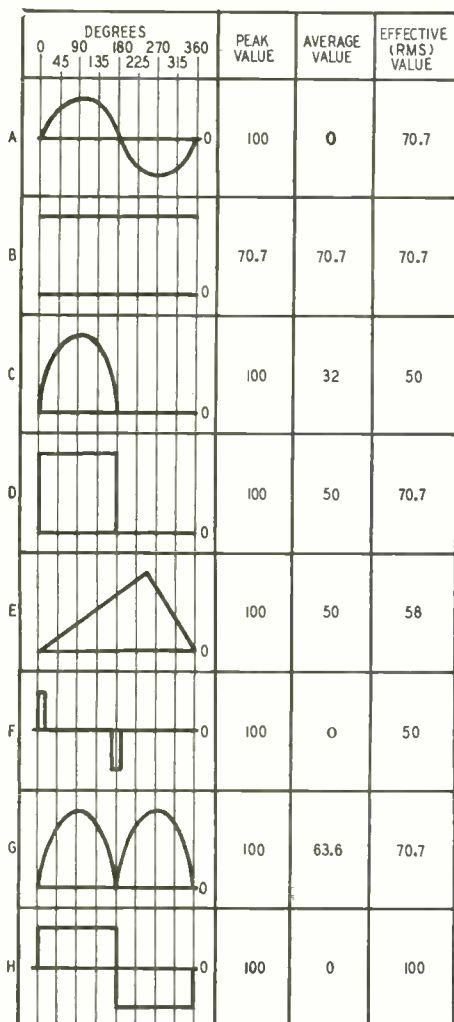

Fig. 1—Shape of the waveform affects peak, average, and effective values.
This is best illustrated by imagining the voltage of Fig. 1-a being measured by our voltmeter. The coil swings in one direction for the positive half of the cycle and in the opposite direction for the negative half. If both alternations are equal in amplitude, we have equal swings. The average of the two swings is, of course, zero, which is what the meter reads. The swinging of the needle is visible only if the frequency is very low. The meter reading is the average of the instantaneous motions of the needle, the average of the currents flowing through the coil over a short period of time. All d.c. meters are calibrated in average values.
What is the significance of the *average value*? Vacuum-tube potentials and currents may vary with instantaneous signal level but proper operation is often determined by the average values. On the other hand, circuit components and the tubes themselves must be selected on the basis of the heating effect of the currents passing through them, which depends on the effective or r.m.s. value. For Fig. 1-b, a d.c. "wave," the average, effective, and peak values are alike. The d.c. meter is designed to measure this type of voltage accurately for only then can it register the heating effect directly. Compare this with Fig. 1-a where the meter would read nothing, yet we know the effective value is as great as for Fig. 1-b.
conventional meters. Step 1 in our calculations is to divide one cycle of any wave into a number of equal time intervals. The greater the number, the better the accuracy. In Fig. 1, the waves are divided into eight parts, though this is far too few for any accuracy. We will then note the amplitude at each of these intervals.
The direction of the current flow has no bearing on its heating effect. Both the negative and positive alternations of a current heat equally a resistor through which it flows. (Note that Fig. 1-g has the same effective value as 1-a.) In other words, polarity is ignored for r.m.s. calculations, but not for averages.
Step 2 is to calculate the average value by adding all the amplitudes and dividing the sum by the number of intervals. Table I lists the data for four of the waves illustrated in Fig. 1. The others are obtained similarly.
As a sample of the calculation of the average value, for Fig. 1-d, the sum of the amplitudes is 400 volts. Dividing by the number of points taken, 8, we arrive at an average value of 50 volts. For 1-a we get zero volts.
The *effective* value is next calculated. The heat produced by a current varies directly as the square of the current ($P = I^2R$), or of the voltage ($P = E^2/R$). The term r.m.s. means "the square root of the average of the squared amplitudes." That is, the effective current is that whose square is the average of all the heating effects. For a sample calculation, for Fig. 1-d (see Table I), the sum of the squared values is 40,000. Dividing by 8, the average of the squares is found to be 5,000. The square root of 5,000 is 70.7 which is the r.m.s. value for the wave. Calculating for Fig. 1-h, we find the effective value is equal to the peak, and the average value to zero.
It is somewhat simpler to understand this last, if we imagine any a.c. wave as it would appear *after full-wave rectification* as in Fig. 1-g compared with 1-a. This is in agreement with what has been said about the direction of the current flow being unimportant. The calculations are based on this "rectified"
Coming back to our d.c. voltmeter, let's see what happens in the measurement of pulsating d.c. voltages. If Fig. 1-d were the plate voltage of a tube, the 50-volt average value would be used in determining the gain or power-handling ability of the tube. The 70.7-volt r.m.s. value would be needed to calculate the wattage of the load resistor. The peak value of 100 volts should be known to select tubes and capacitors that won't break down. The meter, however, is giving us only the
The square wave of Fig. 1-d is formed by the addition of a great many harmonics. It is very possible that many of the harmonics will be lost due to bypassing capacitance in the meter circuits. Something like Fig. 1-c might result. Assume that the peak value remains as high as that of the original square wave. (This is very unlikely.) Then the average value is 32 volts and the effective value is 50 volts, as calculated from Table I. Our meter would read too low. This extreme case indicates what is to be expected and is not to be taken as a practical example.
There is yet another cause of error in using the meter on pulses. Look at Fig. 2, the electrical circuit for the d.c. voltmeter. R is the large value of resistance used as a multiplier and L the inductance of the meter coil (usually small in value). Such a circuit is a differentiator. The voltage across the inductance might look like Fig. 1-f if the square wave were applied to the input terminals. It is easy to see that the average and r.m.s. values might be far different from those of the original square wave.
The inaccuracies noted above seem to be avoided by the use of a d.c. vacuum-tube voltmeter operating on peak values. From Fig. 1 it is obvious that, regardless of wave shape, the same peak value will be read for c, d, and e. Unfortunately, the meter is intended to be used with voltages such as Fig. 1-b where the peak value is also the average and r.m.s. value. This is not true